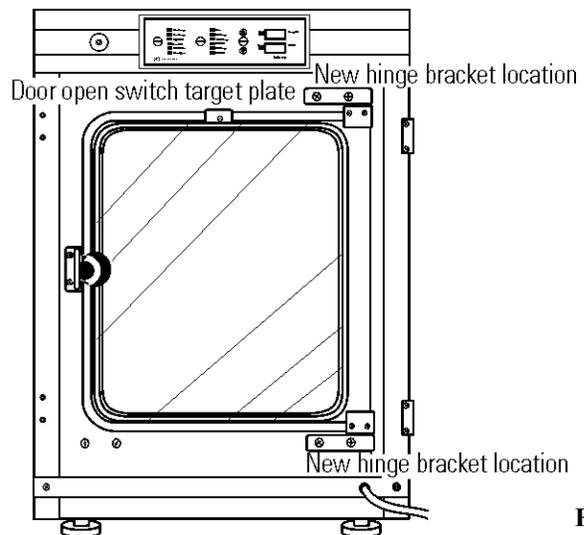

Figure 4-6
- Install the door open switch target plate. Refer to Figure 4-6 and 4-7. The plate must be positioned exactly 12.5 inches from the outside edge of the cabinet to the leading edge of the plate. Do not overtighten.